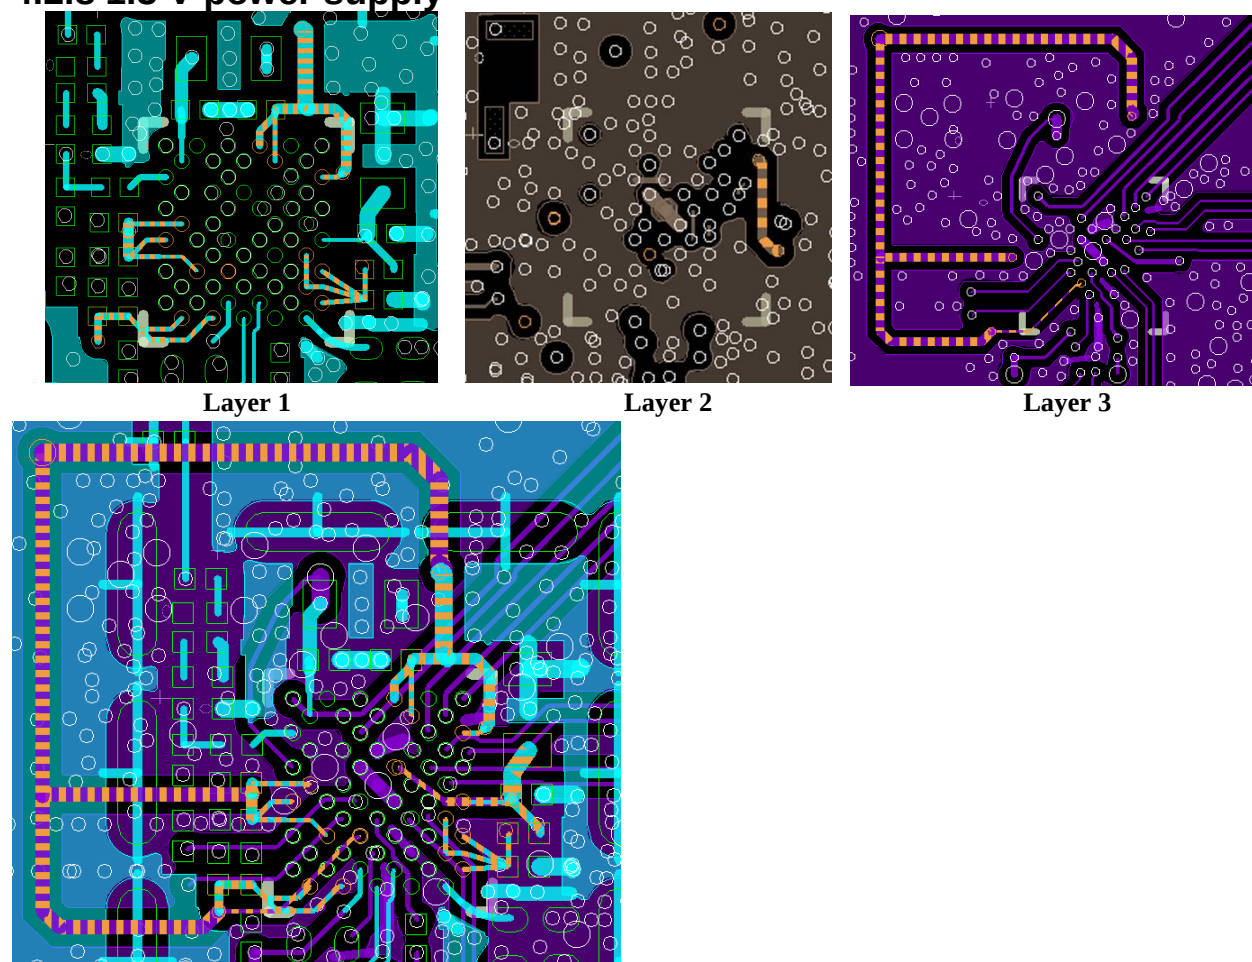

Figure 4-12 Overall 1.3 V routing
- Figure 4-12 shows the overall 1.3 V routing.